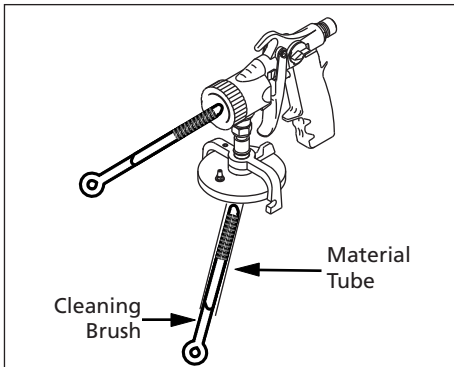

Figure 17 - Cleaning The Material Tube
4. Use the brush (saturated with solvent) between flushes to clean the material tube and the nozzle (See Figure 17).